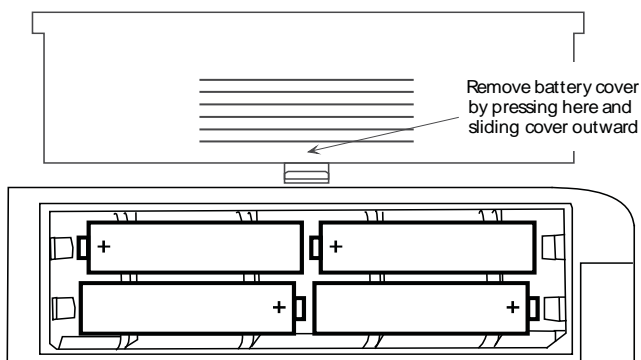

Figure 3-1. Battery Installation
1. Remove battery cover from back of unit (see Figure 3-1).